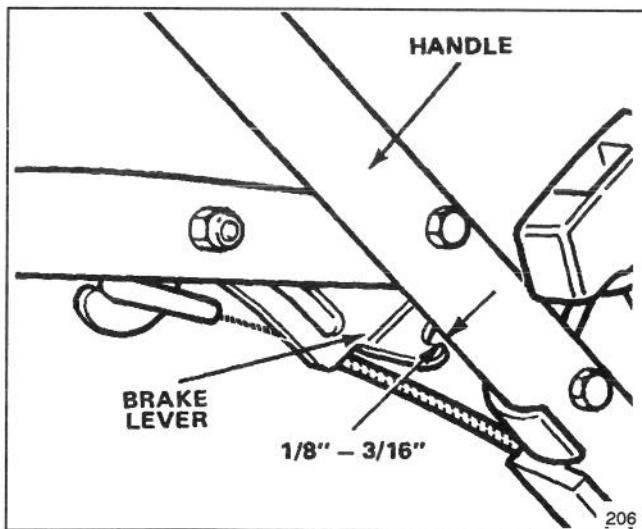

Figure 29
2. CHECK ADJUSTMENT (Fig. 29)—Move control bar toward handle until slack in wire is removed. Gap between brake lever and handle must be $1/8''$ – $3/16''$. See step 3 for adjustment.